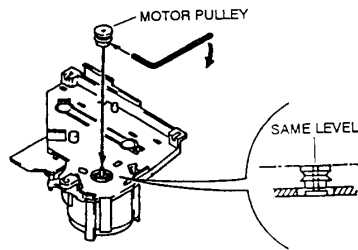

Fig. 12
- Temporarily install the new motor pulley on the same level with the motor shaft (fig. 12).